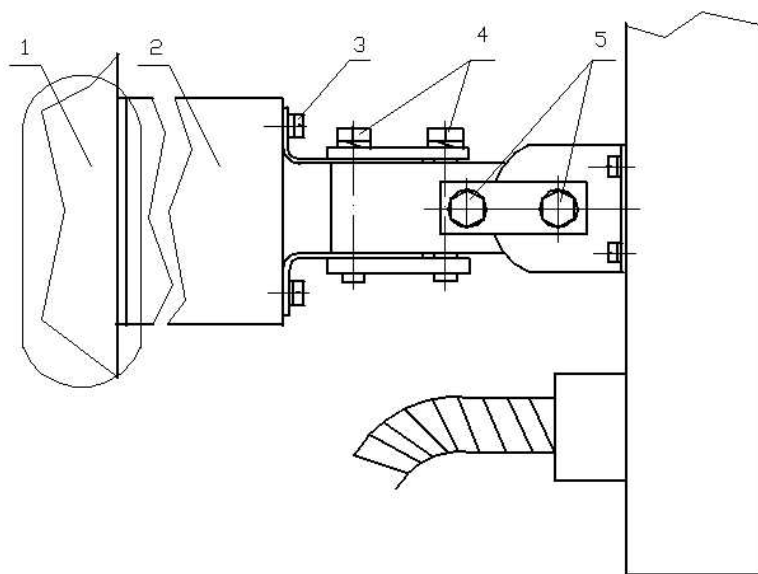

Fig. 10.2
10.2.1 A variant for mounting the units on a wall 1 (barrier) is shown in Fig.10.2. The units are placed at a height less than 0.8...0.9m above the averaged ground, floor or soil surface. First of all, marking to fix a holder 2 is made (UZK-1). Centers of the holes are in the corners of a nominal 80×60 rectangle.
10.2.4 To make alignment at an azimuth loosen bolts 4 (Fig. 10.2) to be able to rotate the units applying a low force. Rotate the RU (TU) towards the opposite TU (RU) of the same sector. Tighten bolts 4 to straighten the spring washers.
10.2.5 For visual alignment to an elevation (see Fig.10.2) loosen bolts 5 to be able to rotate the unit applying a low force. Rotate the RU (TU) towards the opposite unit. Tighten bolts 5 to straighten the spring washers.